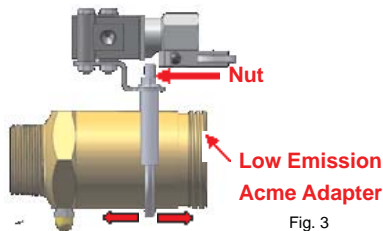

Fig. 3
5. Install Clamp and Bracket on U-Bolt, as shown in Fig. 3, and install Nuts on U-Bolt (tighten finger tight) at this time.
6. Install Acme Cap with Flange on Low Emission Acme Adapter. Adjust position of Pneumatic Interlock Valve Assembly, as shown in Fig. 3, until Pneumatic Interlock Valve activates. Assure Bracket is straight and then tighten Nuts securely.